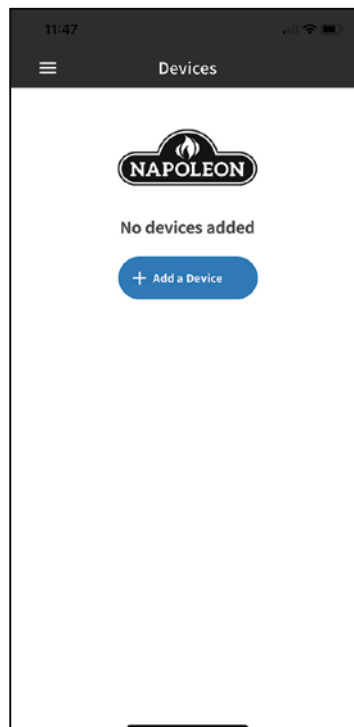

Fig. 18
3. Select “Add Device” and accept permissions (**Fig. 18 & 19**).